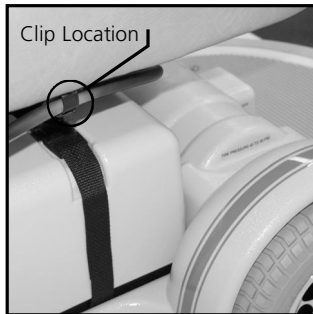

Figure 7C
3. Slide the controller bracket forward until it hits the key slot. (See Figure 7B, below). Remove bracket from arm and place on footrest or other safe location. Unlock cable from seat. (See Figures 7C, Page 44).
2. Remove the controller cable from the seat base by releasing the Velcro strap at the rear of the seat or opening the seat clip at the side of the seat, depending on the type of seat you have. Open the clip by pinching the small tabs on the clip with one hand while removing the strap with your other hand. (See Figures 7C, 7D and 7E, below for recline seat).